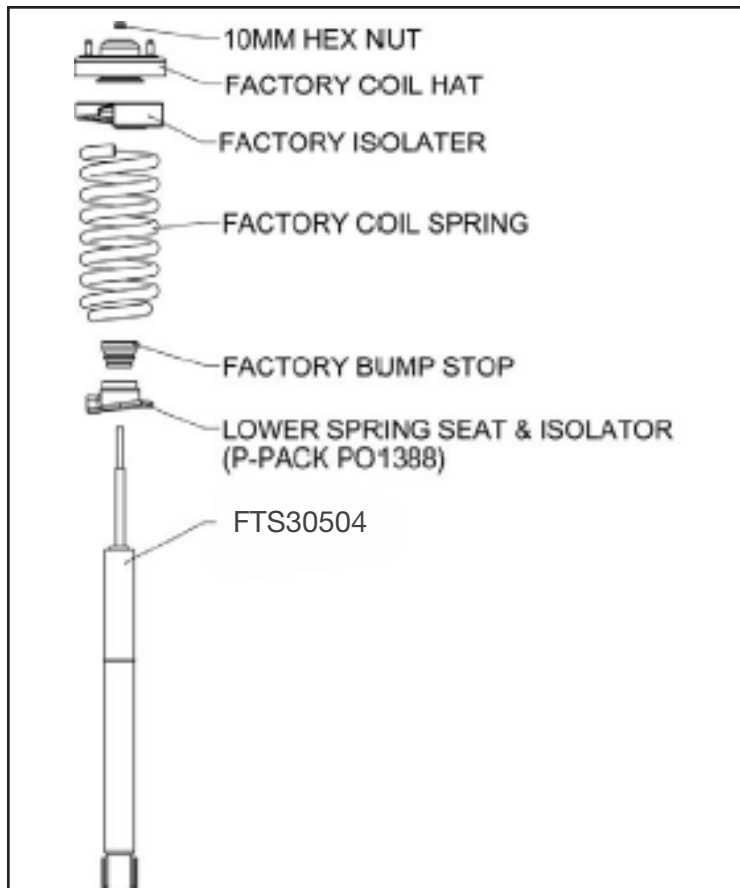

FIGURE 7 - STEP 15
15. Locate FTS30504 new front shocks. Place the factory bumpstop and coil spring, followed by the factory coil hat with the original stem bushing. Using the supplied nylock nut, attach the coil hat to the shock. Torque the nylock nut to 25 ft lbs. **DO NOT USE THE NYLOCK NUT TO COMPRESS THE COIL SPRING, YOU MUST COMPRESS THE COIL SPRING WITH A HEAVY DUTY COIL SPRING COMPRESSOR TO ASSEMBLE THE SHOCK.** Do not reinstall the factory shock boot or any aftermarket shock boot onto the shock. **SEE FIGURE 7**